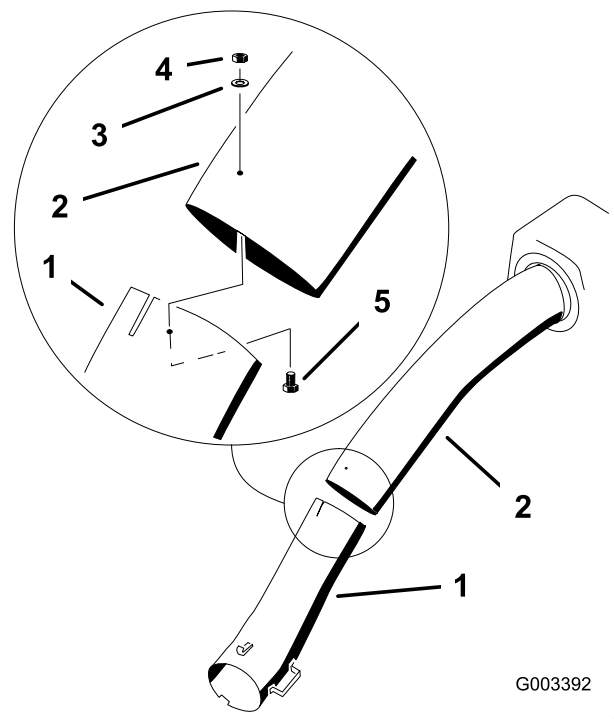

Figure 30
14. Join the upper and lower tubes with 3 bolts (#10 x 3/4 inches), 3 flat washers (7/32 inch), and 3 locknuts (#10) as shown in Figure 30.